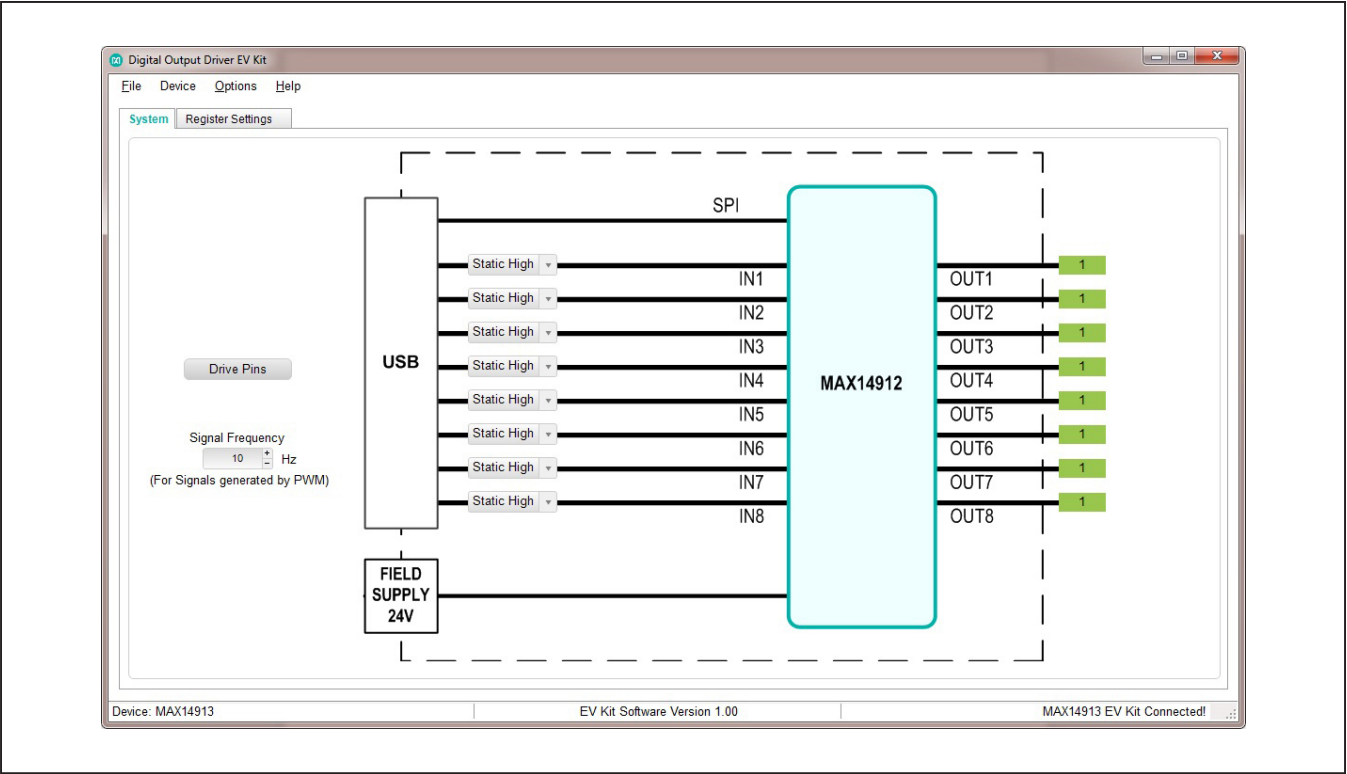

Figure 1. Digital Output Driver EV Kit GUI. System Tab
- 5) Start the EV kit software by opening its icon in the **Start | Programs** menu. The EV kit software appears as shown in Figure 1. Verify that the lower-right status bar indicates the EV kit hardware is **Connected**. The GUI automatically detects which EV kit is connected to the PC, the MAX14912 or MAX14913, and enables
- 7) Configure each input signal as **Static High** from the pull-down menu, as shown in Figure 1.